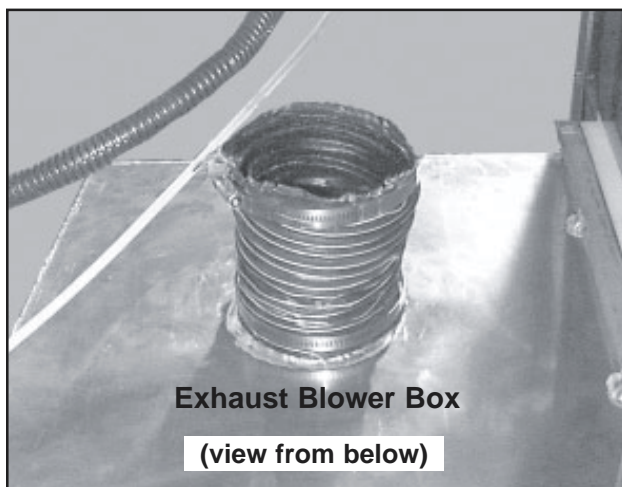
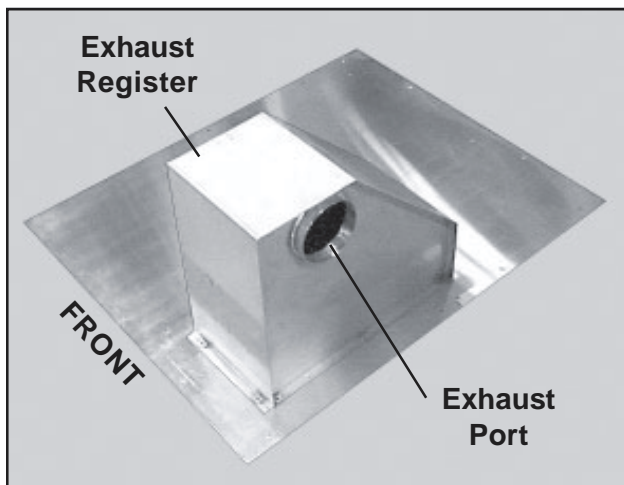
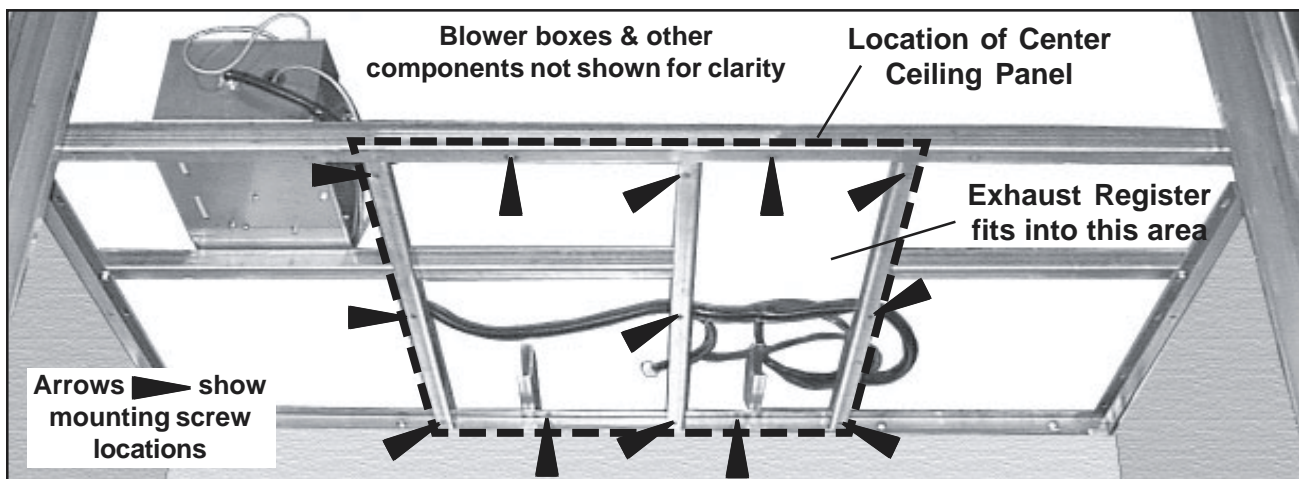

Figure 25. Exhaust Flexible Duct Mounted on Blower Box
Figure 27. Center Ceiling Panel
Figure 28. Mounting Location for Center Ceiling Panel
5. Fit one end of the flexible duct over the port on the side of the exhaust blower box and secure it with one of the hose clamps (Figure 25). Tighten the hose clamp with a 5/16 in. hex nut driver.
Now you will install the center ceiling panel (Figure 27). The panel includes the exhaust register. A port in the register connects to the exhaust flexible duct to allow the passage of air from the cubicle to the exhaust blower box.
1. Hold the center ceiling panel in place under the base frame as shown in Figure 28. While supporting the panel, slip the free end of the exhaust flexible duct (Figure 25) over the port in the exhaust register (Figure 27).